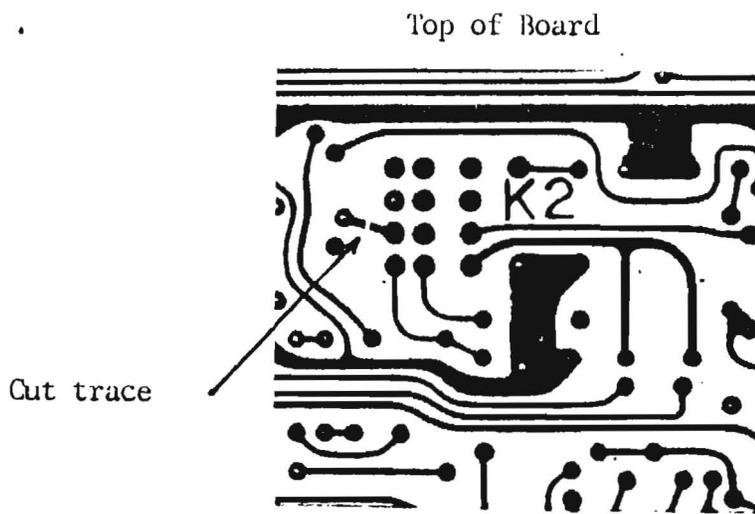

Figure 1
3. Cut the trace from K2-2 to J2-8. See Figure 1, below.